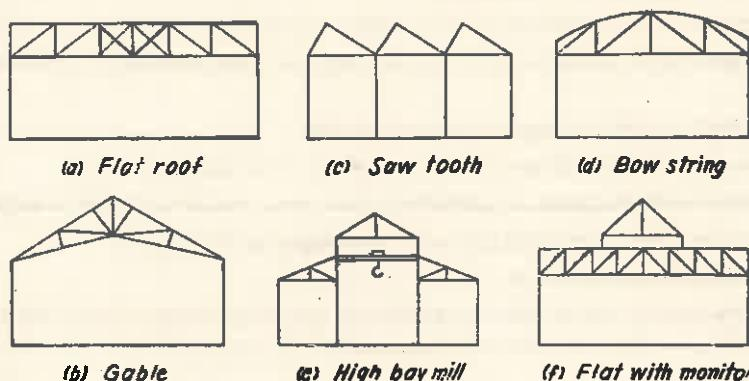

Fig. 4.20. Roof structures of factory buildings.
- Factory buildings may be classed as follows (refer Fig. 4.20).